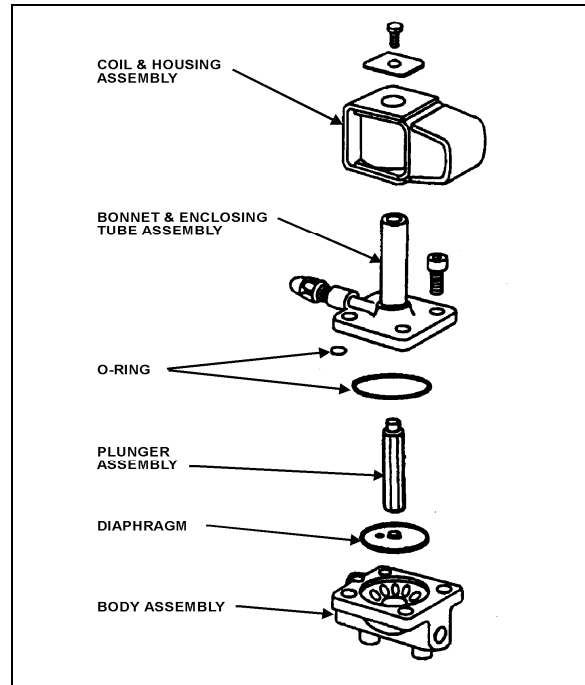

FIGURE 32: REFRIGERANT SOLENOID VALVE 22044
3. Remove the four socket head screws which hold the body and bonnet together (figure 32).